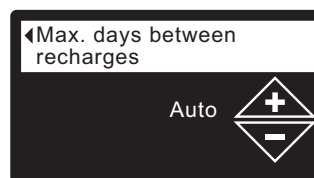

FIG. 139
- 8b. **Maximum days between recharges:** Press the UP (▲) or DOWN (▼) buttons to change the number of days (See Figure 139). The feature can be set from 1 to 15 days. Setting the number of days below 1 turns the feature off and defaults to automatic control of recharging.